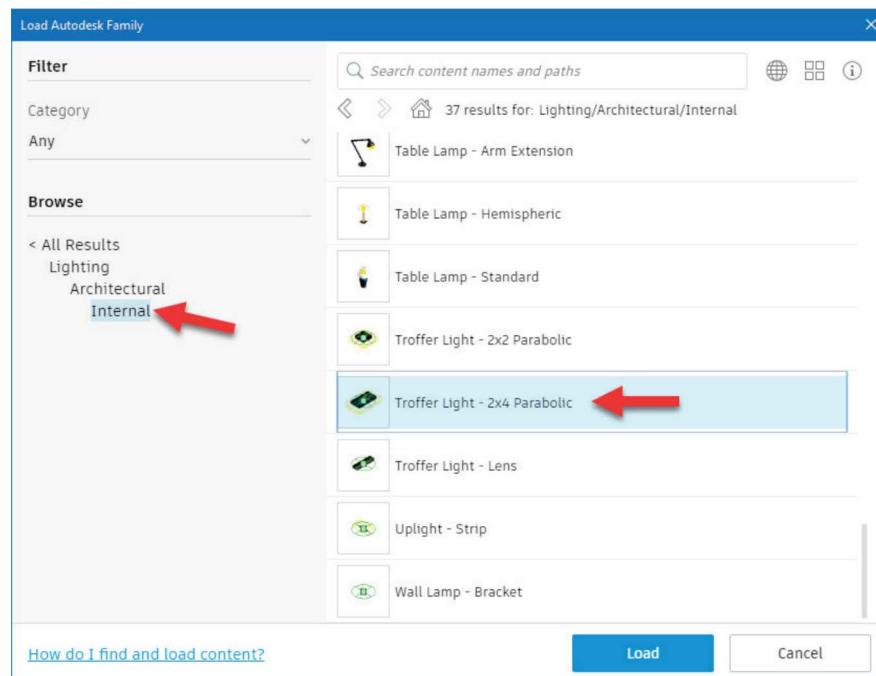

FIGURE 9-3.2 Load Autodesk Family tool
3. In the *Lighting\Architectural\Internal* category, select **Troffer Light - 2x4 Parabolic** and then click **Load** (Figure 9-3.2).